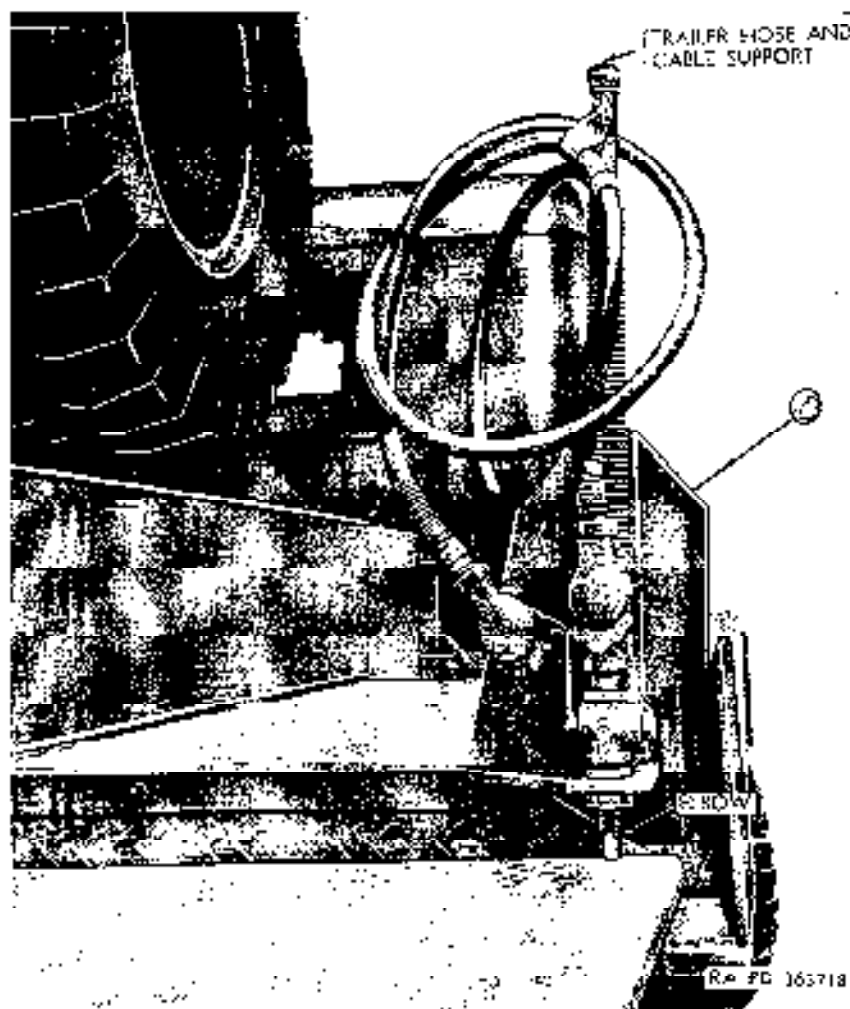

Figure 317. Front view of left trailer hose and cable support M345.
- (1) Remove base plate and pivot post assembly (par. 289).
- (2) Remove fifth wheel (par. 303).
- (3) Remove hydraulic pump and relief valve assembly (par. 288).
- (4) Drain air reservoirs (par. 236).
- (5) Disconnect both ends of air line (fig. 314) connecting elbow (fig. 317) at base of trailer hose and cable supports to tee (fig. 311) at track-frame side rails. Remove clips securing air lines to crane body, and remove lines.
- (7) Portion air lines (fig. 314) on left and right sides of crane body, and secure to body with clips. Connect both lines to elbow (fig. 317) at base of trailer hose and cable supports and to tee (fig. 314) at truck-frame side rails.
- (8) Install hydraulic pump and relief valve assembly (par. 398).
- (9) Install fifth wheel (par. 304).
- (10) Install base plate and pivot post assembly (par. 289).